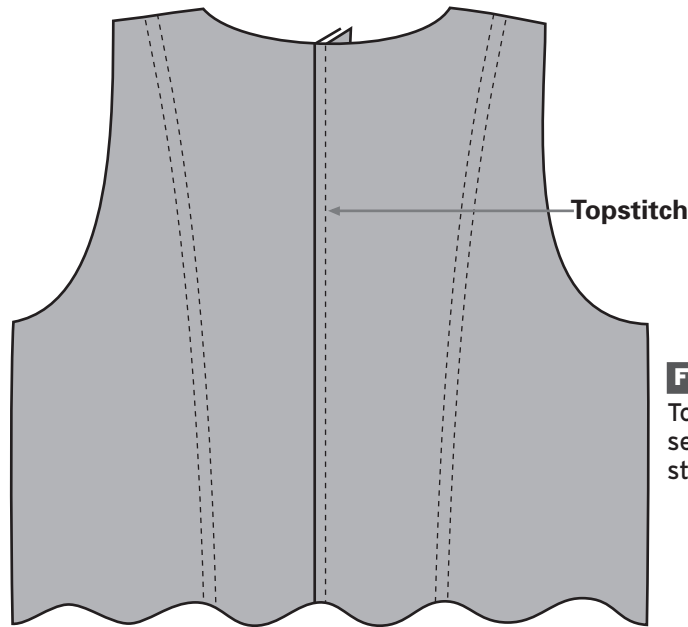

Fig. 11-4
7. With right sides facing, sew the back vest panels together along the center seam. Press the seam to one side and topstitch about ¼ inch (6 mm) from the seam. (Fig. 11-4) Repeat for the back lining pieces, but press the seam open and do not topstitch.